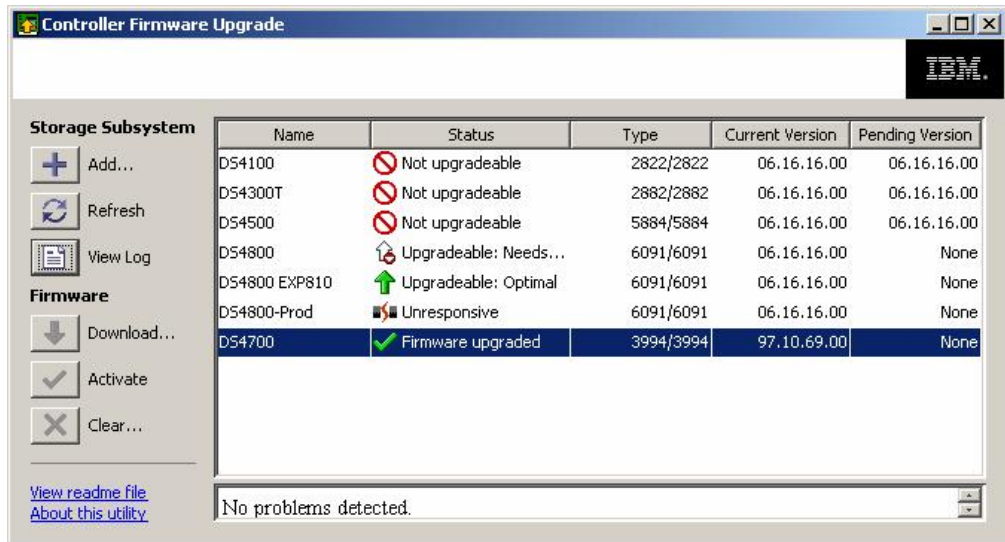

Figure 45. Firmware upgraded
17. Observe the progress indication during the file transfer and activation. After these operations are complete, the utility indicates the result of the operation. If the transfer and activation were successful, the window shown in Figure 45 on page 60 is displayed.